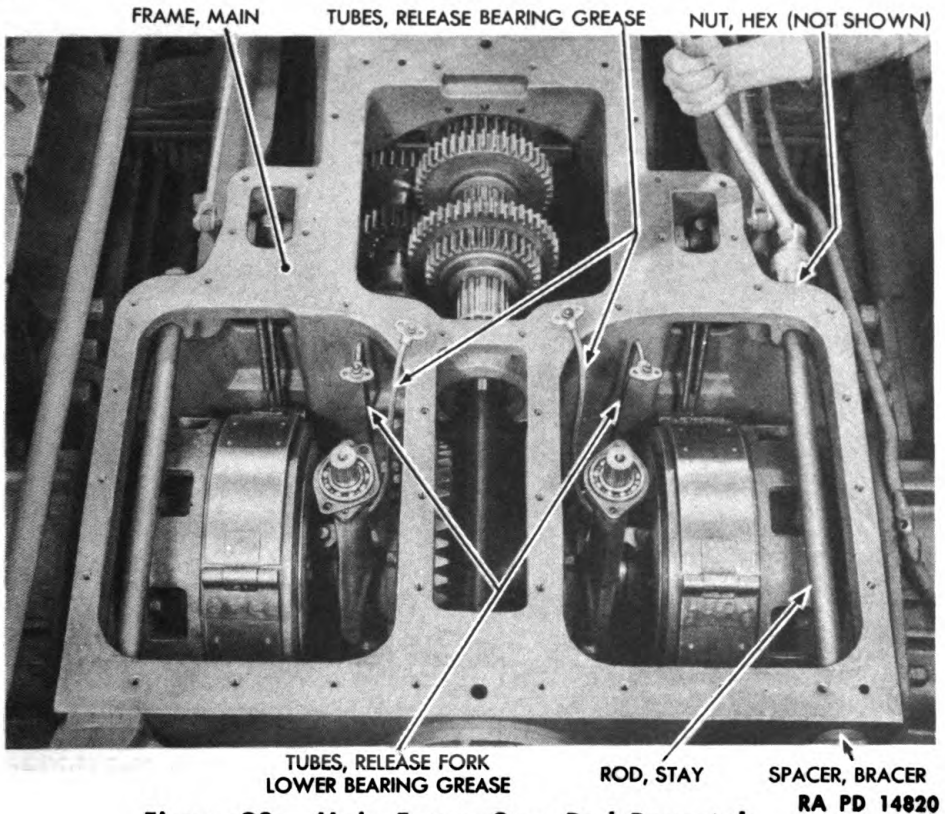

Figure 93 — Main Frame Stay Rod Removal
(9) REMOVE STAY RODS FROM MAIN FRAME (fig. 93).
(10) REMOVE GREASE TUBES (fig. 93).